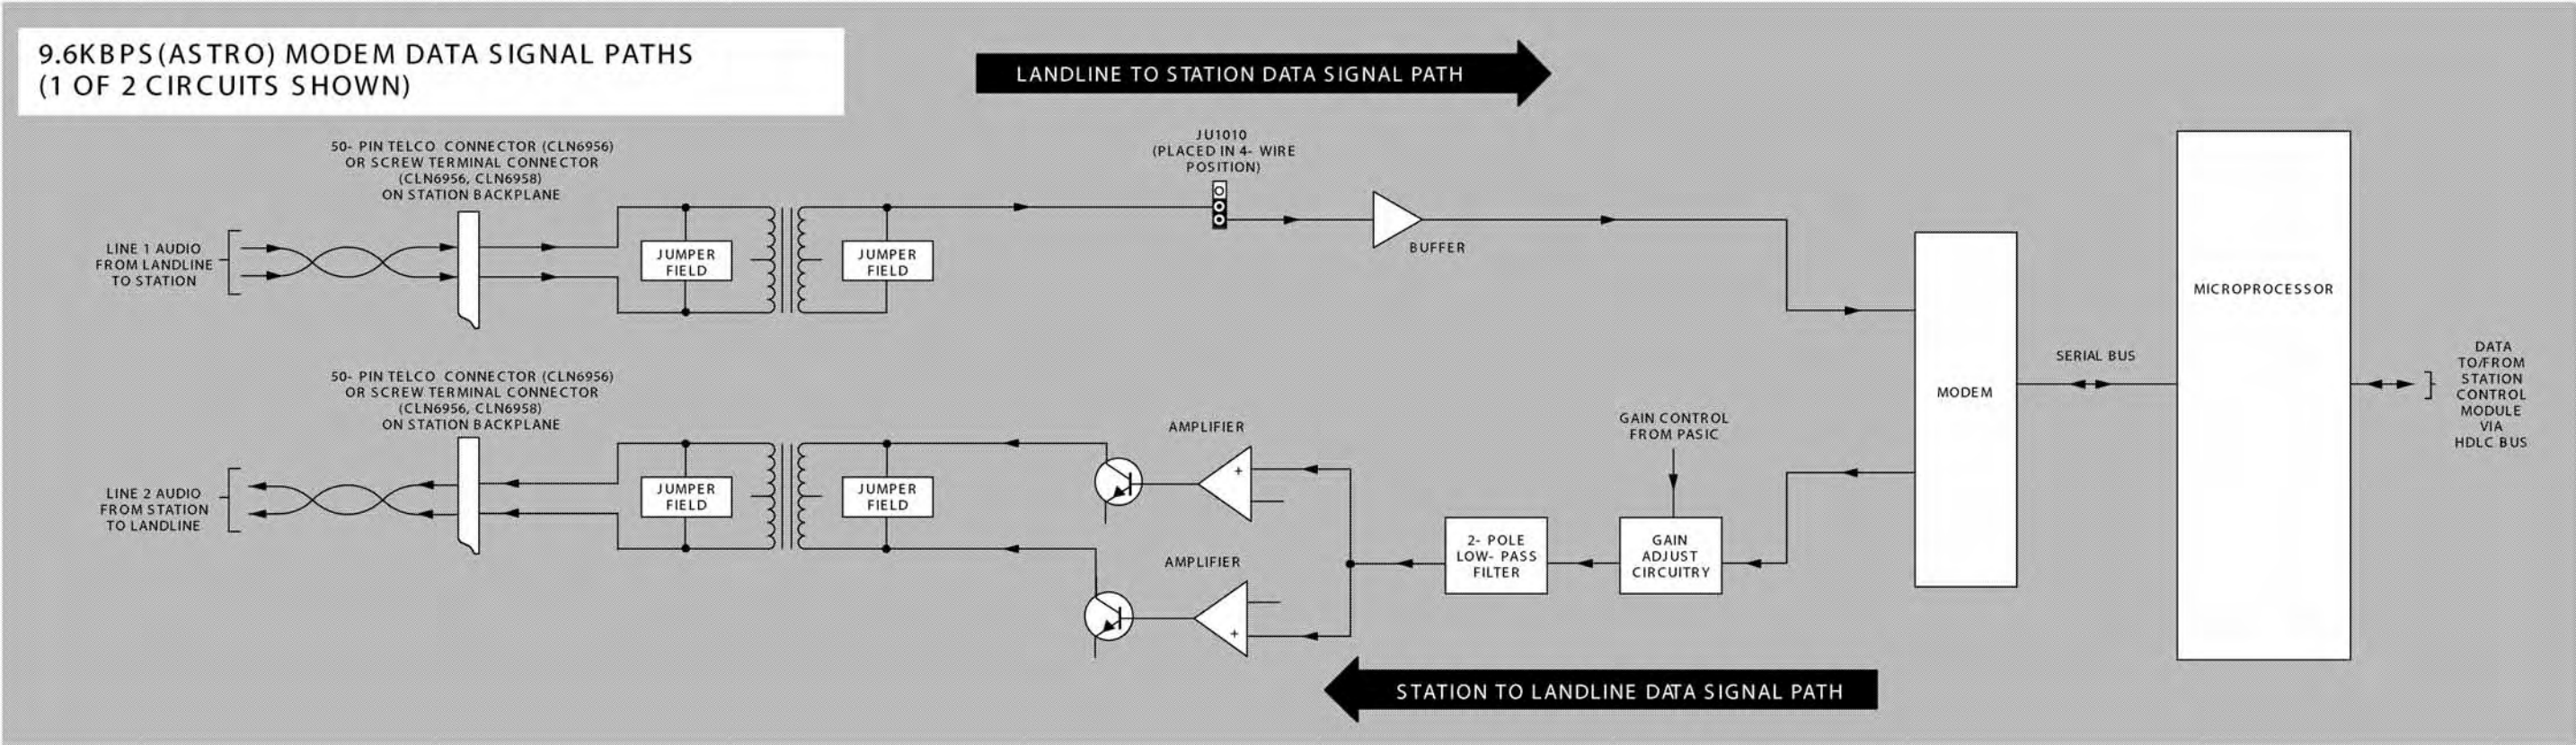

Figure 5 9.6kbps (ASTRO) Modem Data Signal Path Functional Block Diagram
9.6KBPS (ASTRO) Modem Data Path (Refer to Figure 5)